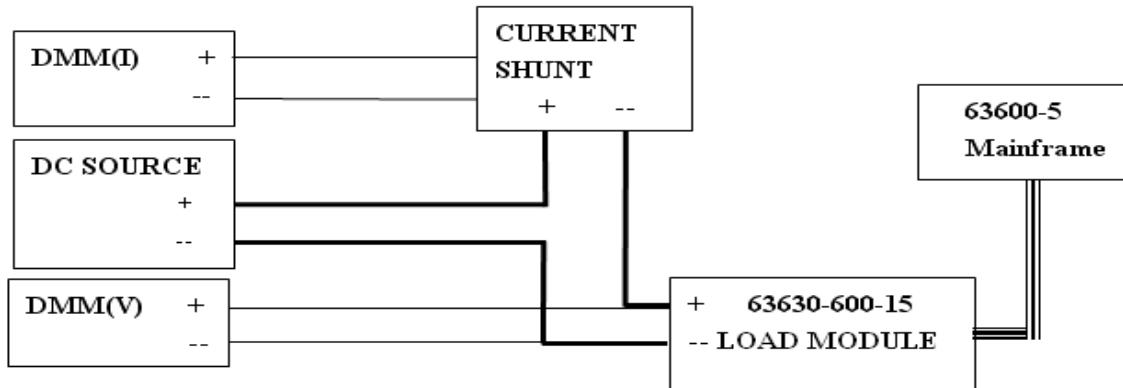

Figure 7-1
- A. Connect the Load module, DC source, DMM and current shunt as Figure 7-1 shows. Use DMM (V) to measure the voltage passing through the module's input terminal. Be careful in making connections so that contact resistance voltage drop will not affect the readings.
- A. Connect the load module, DC Source, DMM and Current Shunt as Figure 7-1 shows. Use DMM (W) to measure the voltage passing through the module's input terminal. Be careful in making connections so that contact resistance voltage drop will not affect the readings.